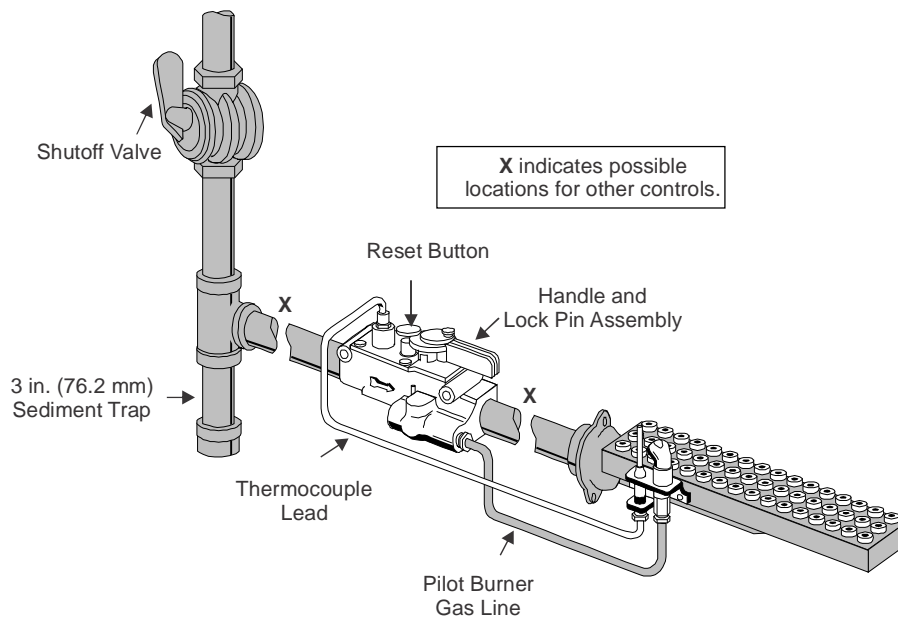

Figure 1: Typical H43 Installation
4. Mount the valve to the pipework. Mount the H43 valve in any convenient position with the reset button and manual valve handle accessible. Use an approved pipe joint sealing compound on the male threads before assembly. Remove excess compound after mounting the valve to the pipework. Threads of the pipe and nipples must be smooth and free of tears and burrs. Steam clean all piping to remove foreign substances such as cutting oil or thread chips. A sediment trap needs to be installed in accordance with the National Fuel Gas Code NFPA 54 (Figure 1).